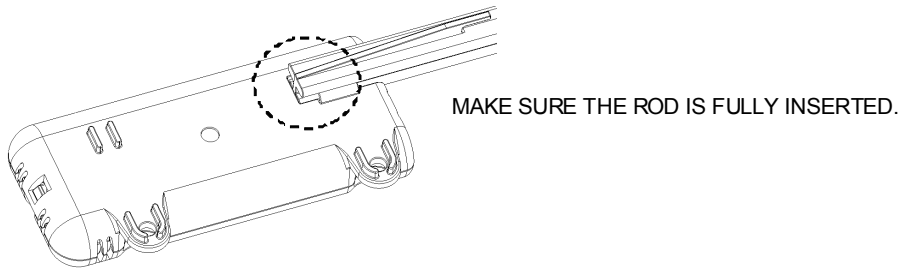
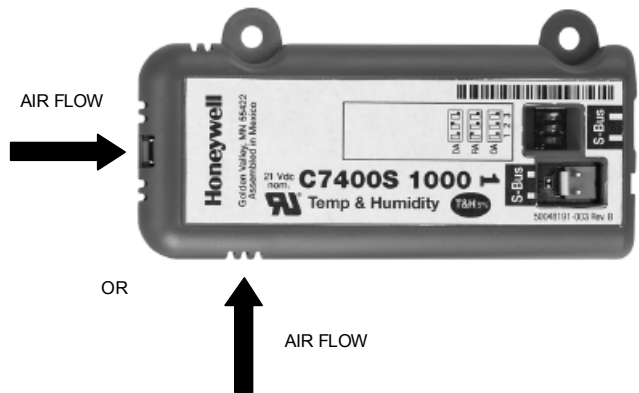

Fig. 2. Sensor attachment to rod.
Fig. 4. Sensor orientation in the air stream.
The sensor must be mounted to allow air flow through the sensor housing vent slots on the end or side of the sensor. Refer to the airflow direction arrow on the flange and Fig. 4 on page 3 for the recommended orientation to the air stream.
3. Insert the rod into the slot on the underside of the sensor as shown in Fig. 2. The gasket will cover the wiring access hole. Refer to Fig. 4 on page 3 and the airflow text printed on the flange to ensure that the sensor orients correctly in the duct airflow.